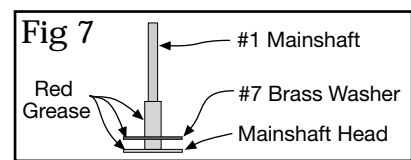

Fig 7
- Select #1 mainshaft #7 brass washer, #14 steel washer, one #15 retainer, #5 orange brass bushing. Cut #1 mainshaft to 12" overall length and debur cut end. Using (fig 7) apply small amount of red grease on mainshaft head. Drop #7 brass washer down mainshaft apply grease on top of washer be sure to apply grease up the 5/16" diameter portion of the mainshaft head. Place #1 mainshaft with washer into original steel post bushing, set base upright on bench.
1. Using (fig 7) select #30 dust cover insert (1/2" dia, X 3/16" tall, turned aluminum ring) and #31 dust cover (3/8" dia. X 1/8" thick stamped steel plug) From top of insert plate, press #30 cover insert into the 1/2" Router Raizer access hole until flush.